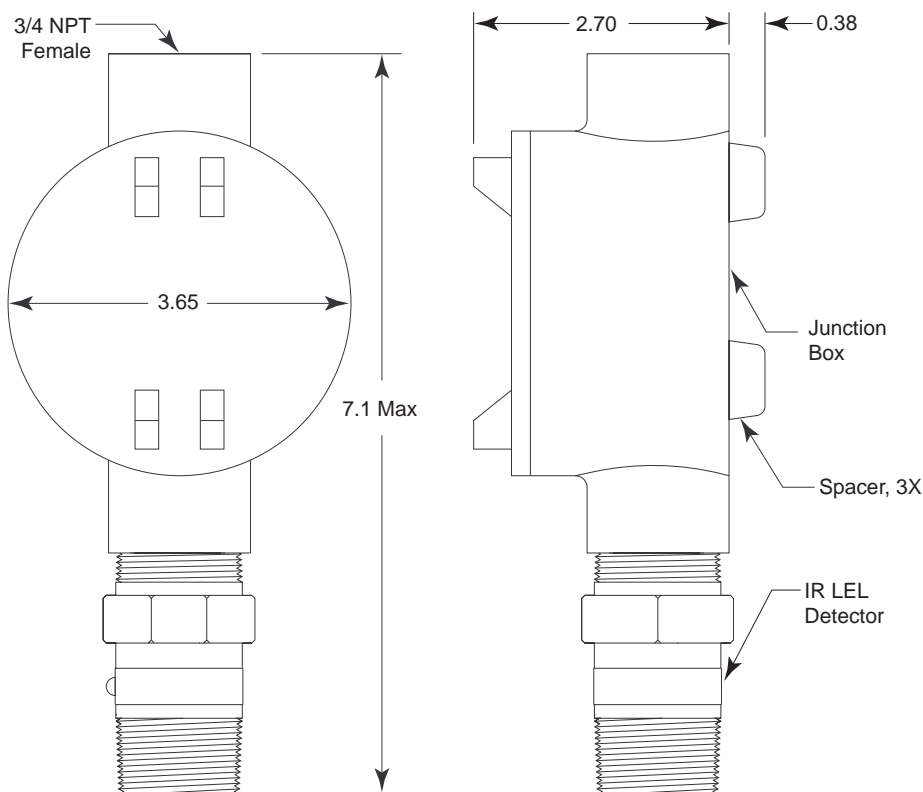

Figure 1: Mounting the Combustible Gas Detector
2. At the mounting site you select, hang or mount the junction box with the detector facing down (see Figure 1).